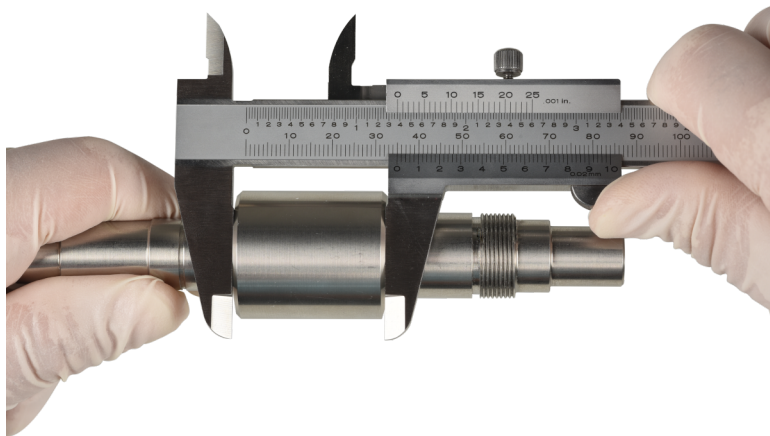

Figure 25: Measuring length L_1 on the pump shaft.
22. Lightly press the thumb grip against the main scale and slide the movable jaw closer to the other end of the measured feature until you have established light contact between the caliper jaws and the shaft, as shown in Figure 25.